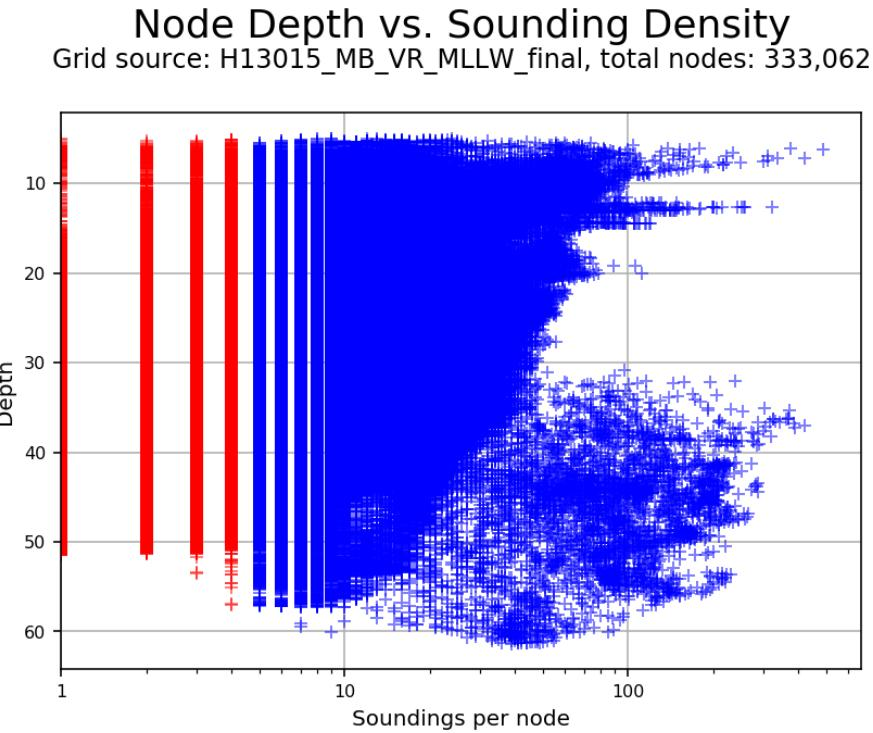

Fig. 2.35: A plot of every node represented in the surface in plotted as its depth on the y axis and its density on the x axis.
- Node Depth vs. Sounding Density (Fig. 2.35).